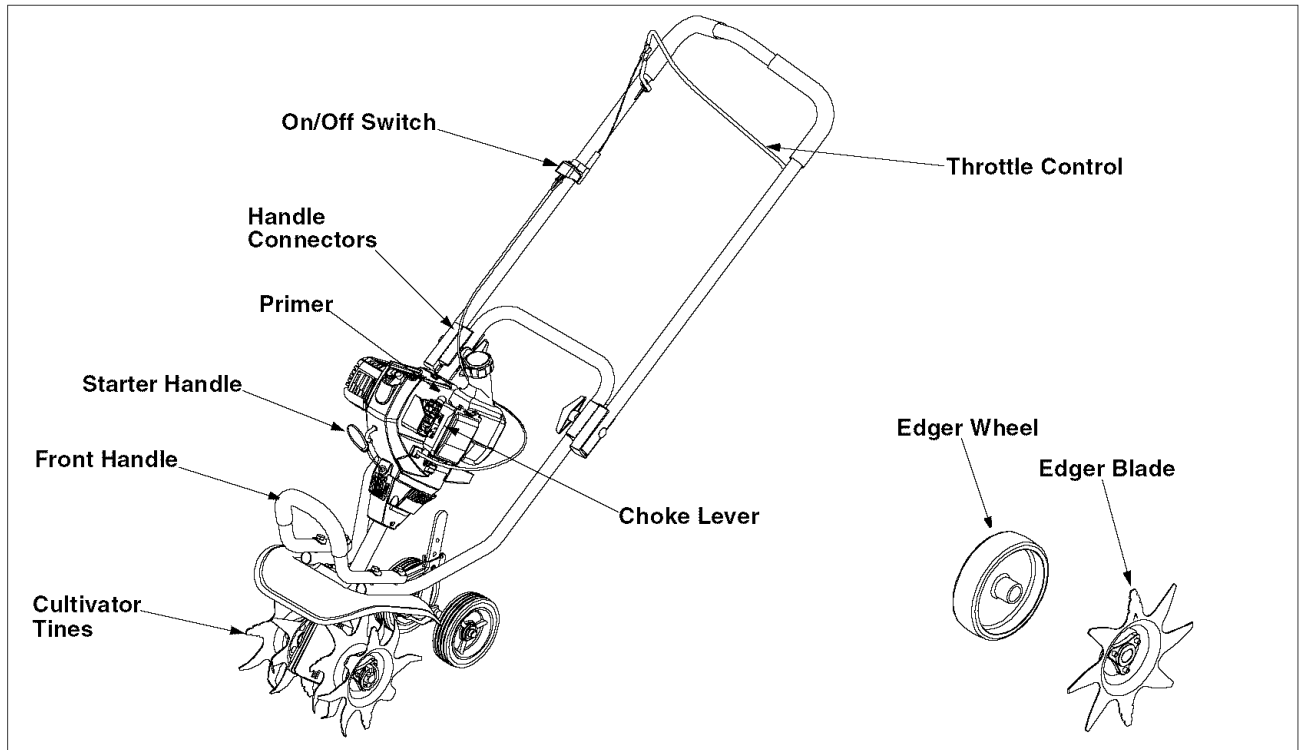

Figure 2
Read this operator's manual and safety rules before operating your cultivator / edger. Compare the illustrations with your unit to familiarize yourself with the location of various controls and adjustments. See Figure 2.
- Squeeze the throttle control to the wide open position. Refer to Figure 2.
- Move the choke to Partial (B) position.
**NOTE:** *The engine will not operate in the Close (A) position.*
- Move choke lever to Open (C) position and run at full throttle for 30 seconds. Release throttle lever.
- Move choke lever to Open (C) position.